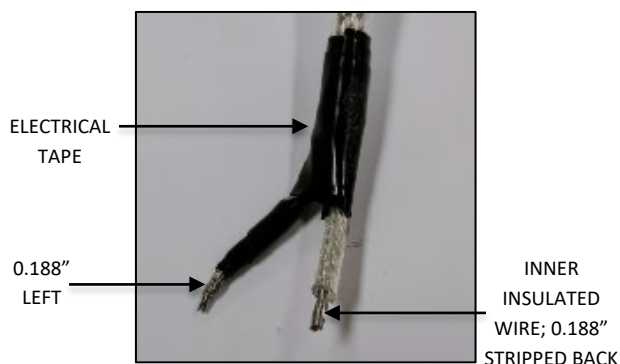
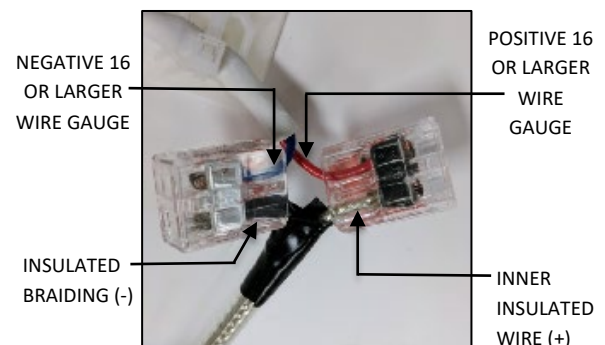

FIG. 30
FIG. 31
3. Using electrical tape, insulate the twisted strands leaving 0.188" exposed for connections. Strip off 0.188" of the inner insulation as you normally would for 18AWG stranded core wire as shown in FIG. 30 below. Connect the inner insulated wire (+) to the positive 16 gauge or larger wire ran in step 5 at the hanging bracket and Connect the outer braiding (-) to the negative 16 gauge or larger wire ran in step 5 at the hanging bracket FIG. 31 below.